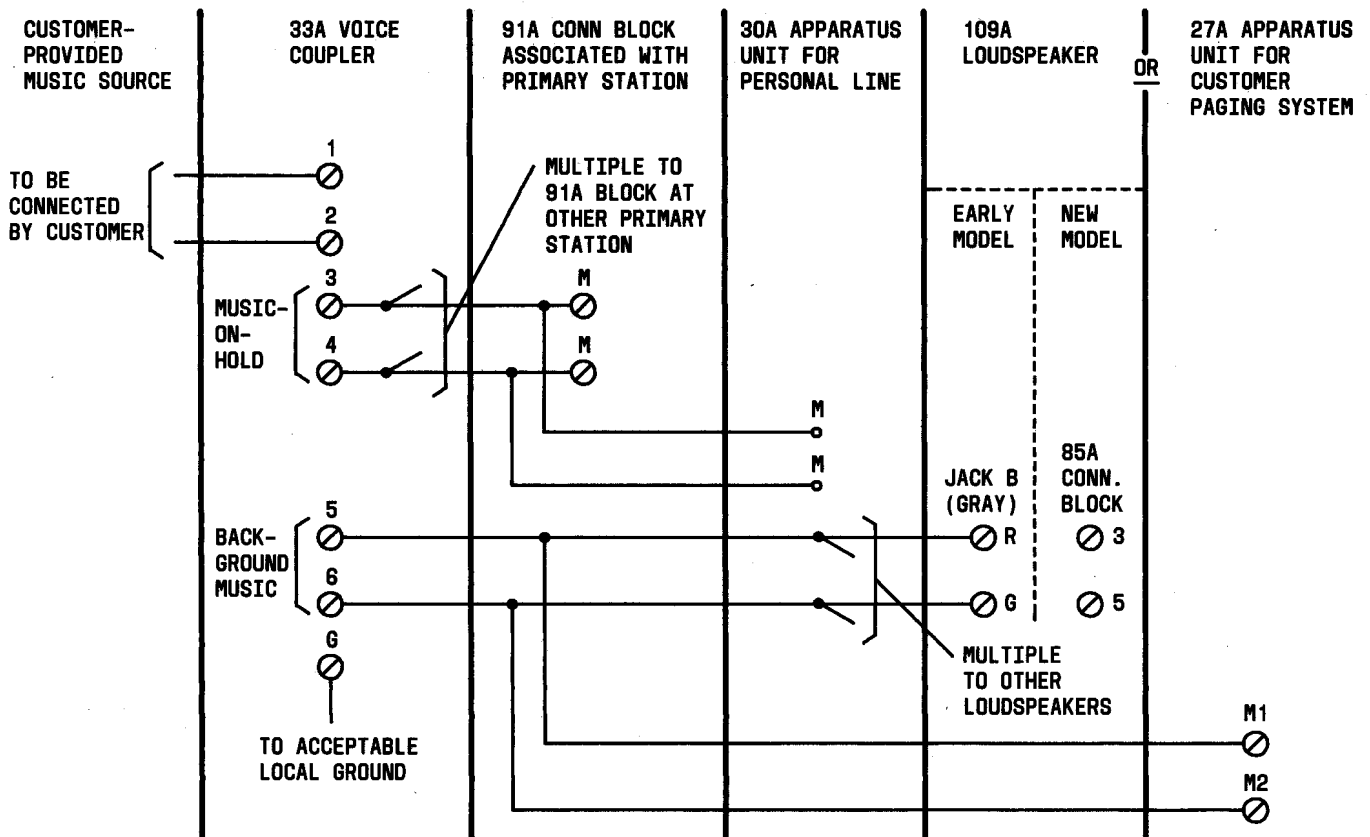

Fig. 22—Connections for Music-On-Hold and Background Music
- (c) Connect terminals 3 and 4 of the coupler to the primary stations by way of the two M terminals of the 91A connecting blocks using inside wire (Fig. 22).
- (3) If background music is to be provided over the 109A loudspeaker, install a 33A voice coupler if one is not already used for music-on-hold (the same coupler can be used for both functions), and connect as shown in Fig. 22.
(4) If background music is to be provided over the 109A loudspeaker, install a 33A voice coupler if one is not already used for music-on-hold (the same coupler can be used for both functions) and connect as shown in Fig. 22.
(c) If background music is to be provided, install a 33A voice coupler if one is not already used for music-on-hold (one coupler will serve both functions). Connect screw terminals 5 and 6 of the coupler to screw terminals M1 and M2 of the 27A unit (Fig. 22 and 28).